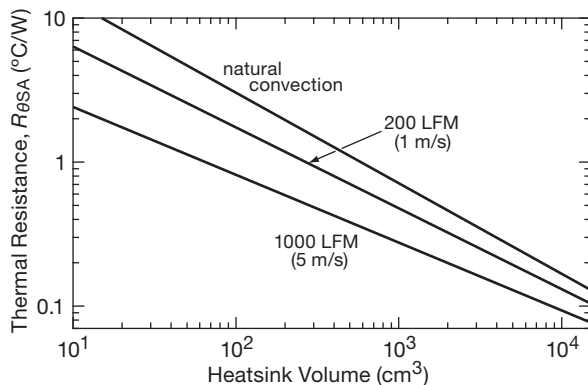

Figure 9.43. Rough guide to heatsink size needed for a given thermal resistance from sink to ambient ($R_{\theta SA}$).
- Figure 9.43, adapted from the Wakefield Engineering heatsink literature, gives a rough estimate of the physical volume of heatsink required to achieve a given thermal resistance. Note that curves are given for still air (natural convection) and for two values of forced air flow. Don't take these curves too literally – we just gathered data from a half dozen representative heatsinks, and then drew trend lines through them; they're probably good to a factor of two, but don't rely on it (or, at least, don't complain to us later!).